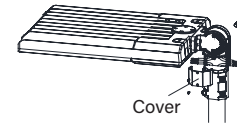

Figure 3
2. Loosen the four bolts on the slipfitter cover, connect the wires to source power, and push them into the tenon. (Figure 3)
3. Place the slipfitter onto the tenon and tighten bolts. (Figure 3)